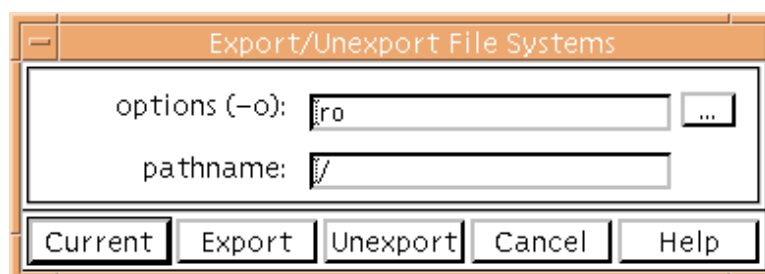

Figure 17. Export/Unexport File Systems Window
Used to export or unexport a file system in order to allow or deny file system sharing. Select the `EXPORTFS` option to open the Export/Unexport File Systems window (Figure 17).
- STEP 1: Select a file system.** Click on a file system in the list in the Disk Manager window to highlight it and then click on the EXPORTFS button. The Export/Unexport File Systems window appears (Figure 17).